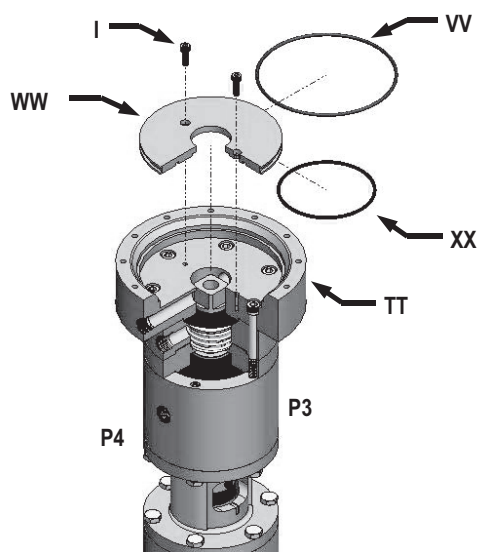

Figure 28
Step 48: Slide a -154 O-Ring (VV) around the rim of the Seal Plate (WW), as shown in FIGURE 28. Place a -145 O-Ring (XX) into the bottom groove of the Seal Plate (WW).
Step 49: Bolt the Seal Plate (WW) to the Lower Feedback Chamber (TT) using 2, 8-32 x 1/2" SHCS (I).